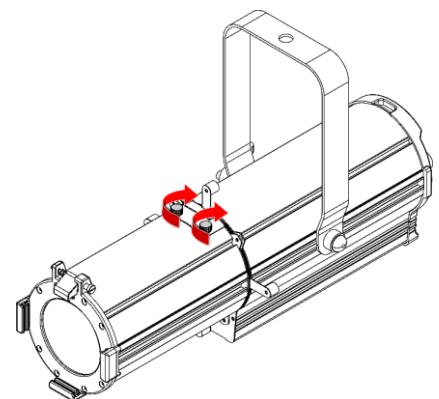

Fig. 20
- 07) Tighten the 2 **cover plate thumbscrews (09)** to secure the **gobo slot cover plate (10)** at its place (see Fig. 20).